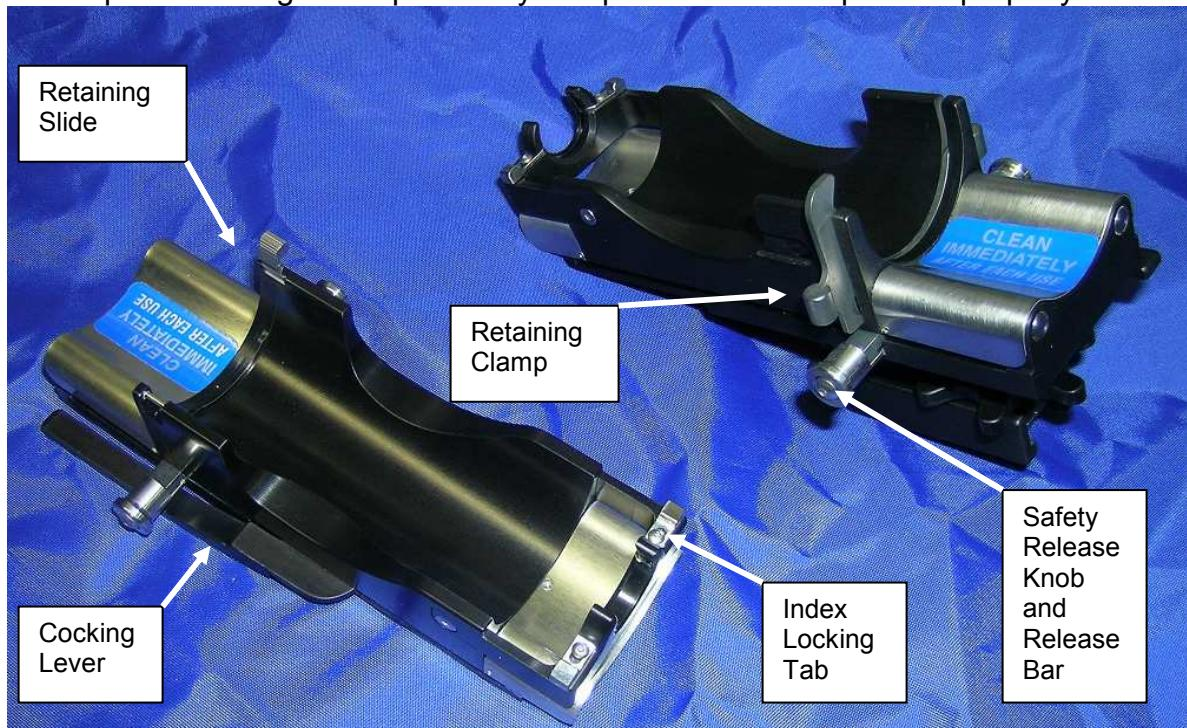

Figure 3.2.1 Stereotactic Adapter Components
6. Repeatedly cycle all moving components to remove any trapped cleaning solution; reference Figure 3.2.1 Stereotactic Adapter Components.